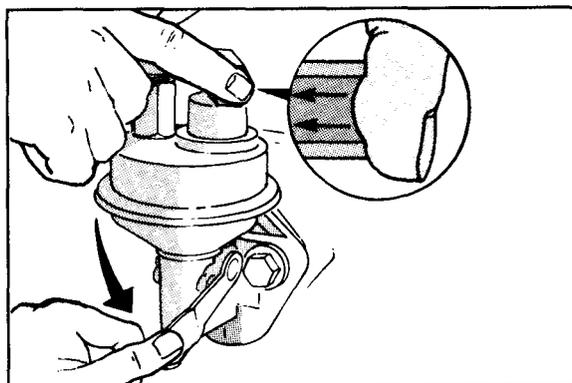

Figure 7-3
3. Inspect diaphragm by blocking fuel inlet line with finger and operating priming lever (Figure 7-3). A properly operating pump will have suction that will not bleed down until finger is removed from inlet.